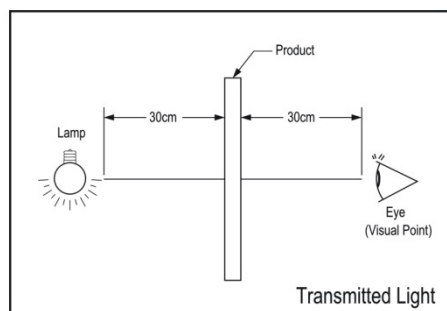
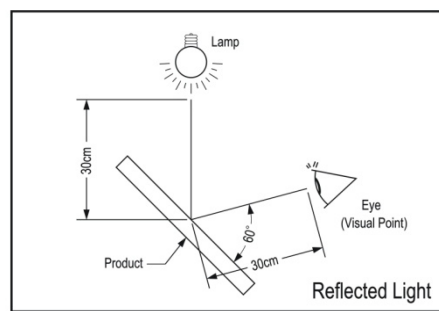

Figure 11-1
Figure 11-2
(1) 18W(1000±500Lux) fluorescent luminant lamp is used for appearance inspection. Detail settings are shown in (Fig 11-1) and (Fig 11-2).
[(1) 檢測始用之燈光為 18W(1000±500Lux)白熾燈光，詳細的擺設方式，請參考圖(Fig11-1), (Fig11-2)]
(2) Minor impurities outside active area are acceptable unless their existence affect electrical functions.